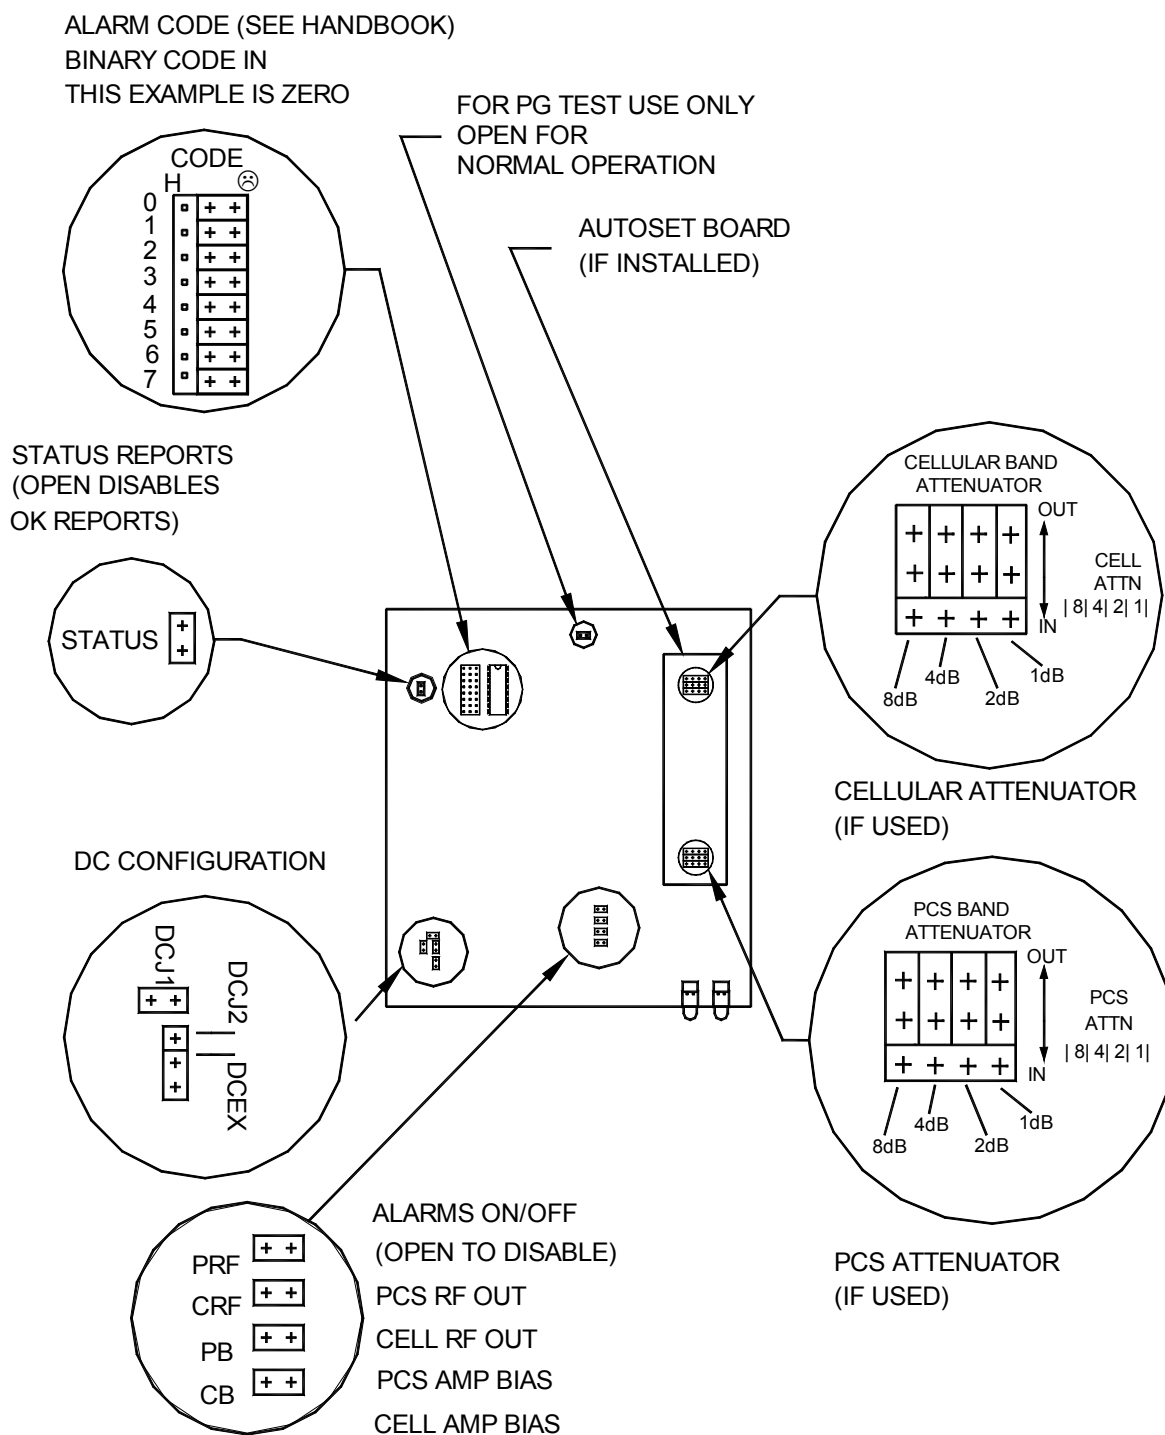

Figure 4-1 A238 Programming Options - Jumper Locations
NOTE: Section 4.0 of this manual describes programming details. For convenience a reduced size copy of diagram Figure 4-1 is provided on the inside of the amplifier cover as a reference.
The amplifier contains a number of options which are programmed before the unit is installed, or may be adjusted during system installation or modification. They are set in a default setting by PG before shipment. A summary diagram of these jumpers is affixed to the inside of the removable amplifier cover for use in the field, but a larger view is shown herein (Fig 4-1) together with the following description of these settings.
1. Refer to the jumper field with a block of eight jumpers labelled 0 to 7 in Figures 4-1 and 4-2.